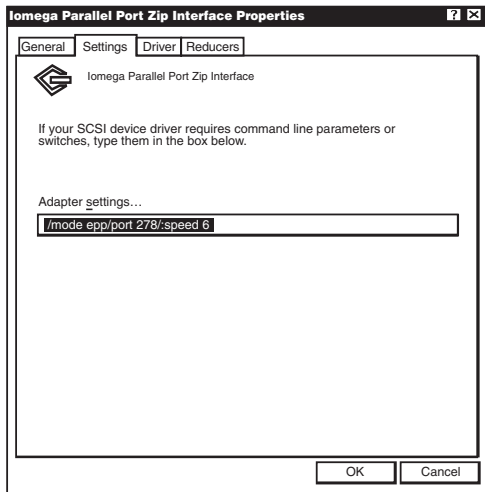

Figure 4-4. Iomega Parallel Port Zip Interface Parameters.
2. For maximum speed and performance, we recommend one further step after running the Parallel Port Accelerator utility. Open Control Panel→System→Device Manager and find the Iomega Parallel Port Zip Interface listing under SCSI Controllers. Click Properties and go to the Settings tab. The screen shown in **Figure 4-4** will appear.